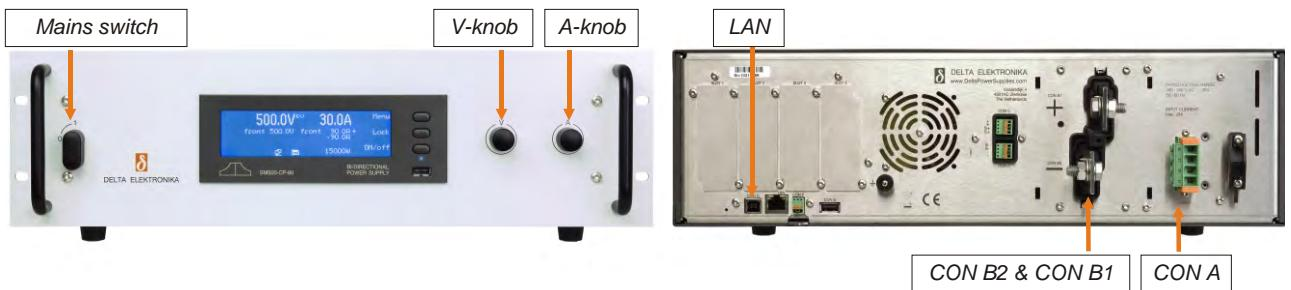

fig. 3 - 1
- Use the included 4-pole header with the markings L1, L2, L3, PE for connecting the wire to the unit (see fig. 3 - 1). The mounting torque for the header terminals is 0.6 Nm.
- These terminals are located at the rear side, marked as CON B1 (PLUS) and CON B2 (MINUS), see fig. 3 - 1.